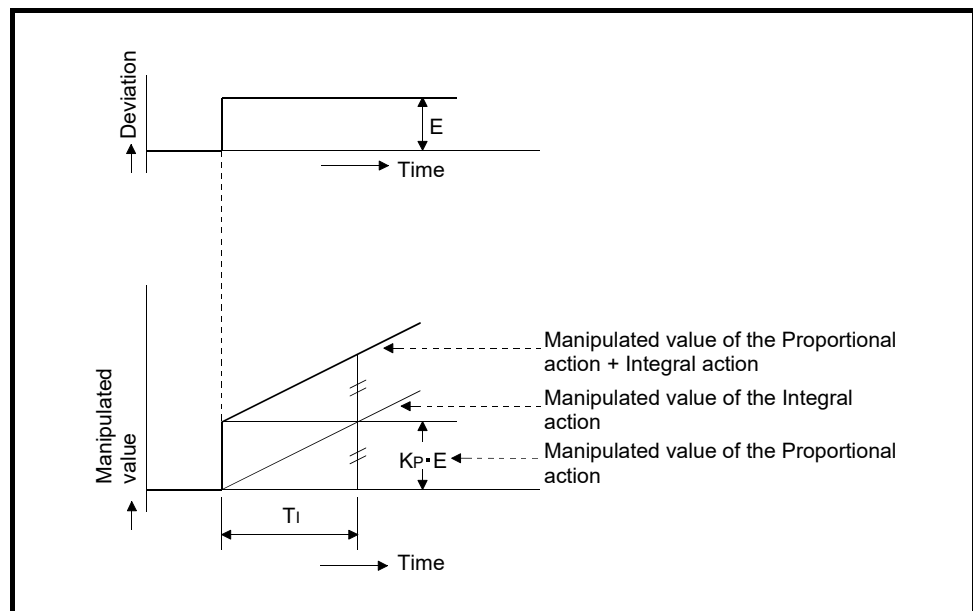

Fig. 1.8 Integral action for step response
- (2) In the integral action, the time from the deviation occurrence until the manipulated value of the integral action becomes that of the proportional control action is called the integral time, and is indicated by T_I .
- (3) Figure 1.8 shows the integral action for the step response with a constant deviation.
- (4) The integral action is used in the PI action in combination with the proportional action, or the PID action in combination with the proportional and derivative actions.